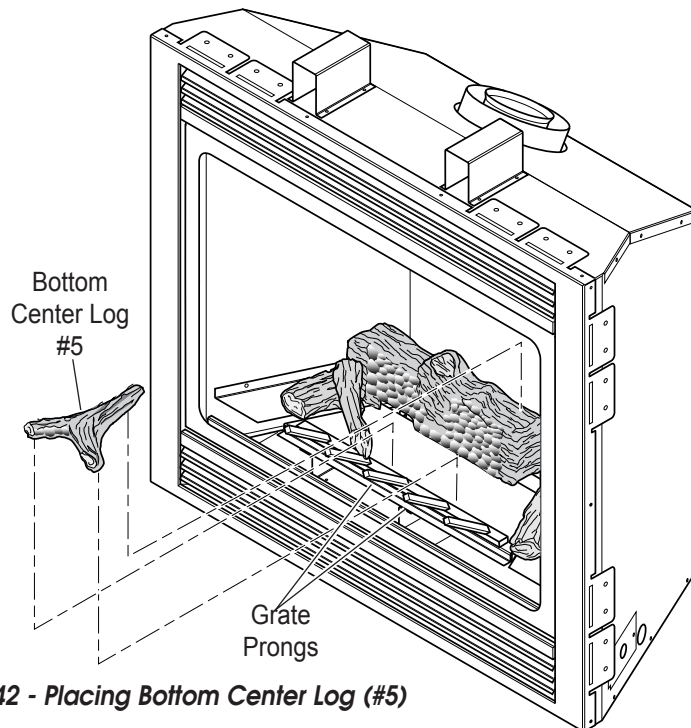

Figure 42 - Placing Bottom Center Log (#5)
5. Place back end of bottom center log (#5) on right notch of rear log. Rest front “Y” shape on burner as shown in *Figure 42.*